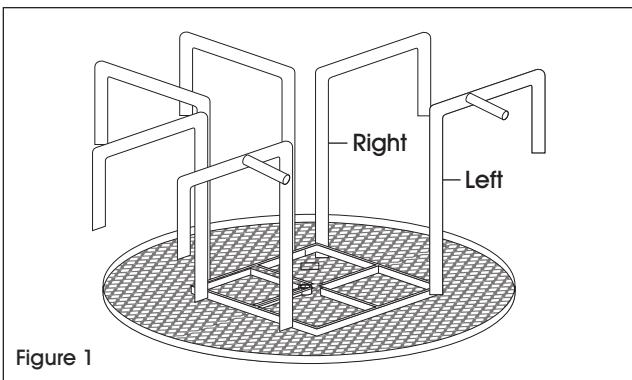

Figure 1
2. Flip the tabletop upside down. Take one leg at a time and loosely attach to the tabletop using one bolt, one washer and one nut. The leg braces are an inside mount. The legs are labeled left and right. Match the legs to the left and right markings on the underside of the table. Attach the two legs with supports to opposite sides. (See Figure 1)